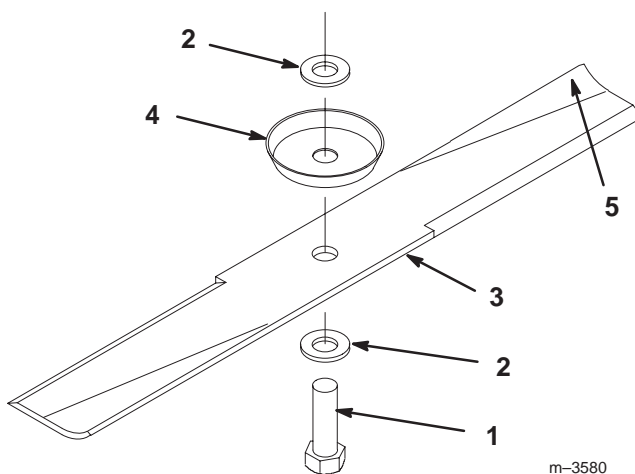

Figure 36
2. Install the washer, spindle cup, blade, washer, and blade bolt (Fig. 36).